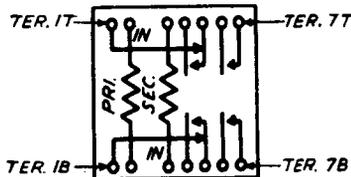

FIG. 2 - WINDING AND SPRING TERMINAL ARRANGEMENT AS VIEWED FROM THE REAR (TERMINAL SIDE) - A, E, F, H, R AND T TYPE RELAYS
2.03 All Terminals (Rear View): Where it is necessary to connect to the winding terminals of relays whose terminals are inaccessible from the front, the terminals are designated TER followed by terminal number. The terminals are numbered from left to right as shown in Fig. 2. This numbering is specified in the circuit requirement table where winding terminals are inaccessible from the front.